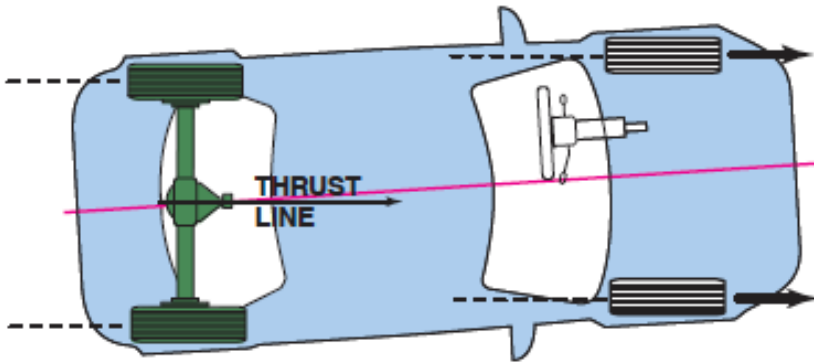

Figure 46. Dog tracking.
2. If the center bolt breaks, the individual leaves can move, and the rear axle is no longer held in the correct location. When one side of the rear axle is behind the other side, the vehicle will dog track. Dog tracking refers to the sideways angle of the vehicle while traveling straight. Figure 46.